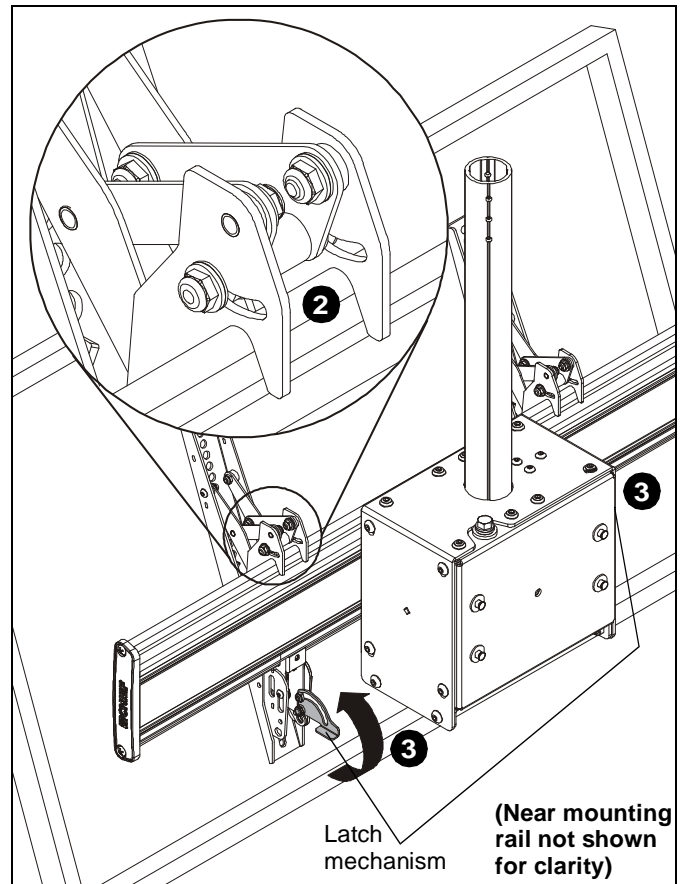

Figure 8
- While supporting both sides of display, lower display onto ceiling mount, hooking top of interface brackets onto front of ceiling mount. (See Figure 8)
- Raise the latch mechanism on both interface brackets to lock display in place. (See Figure 8)